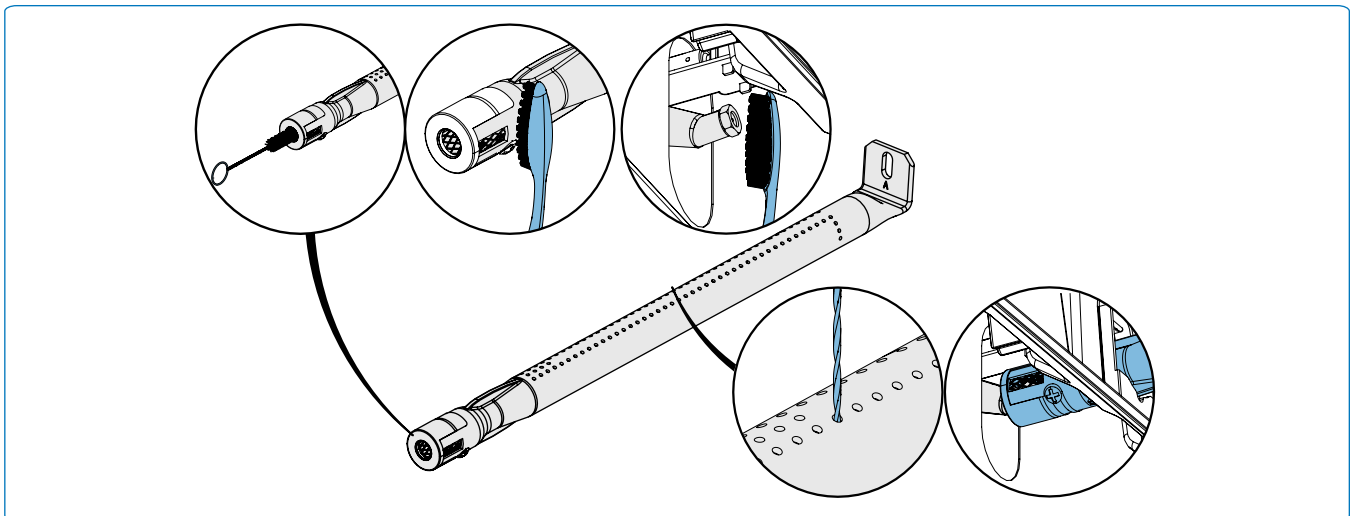

Fig. 15
1. Remove the screw (s) that attaches the burner to the back wall of the grill. Slide the burner back and upwards to remove (**Fig.15**).